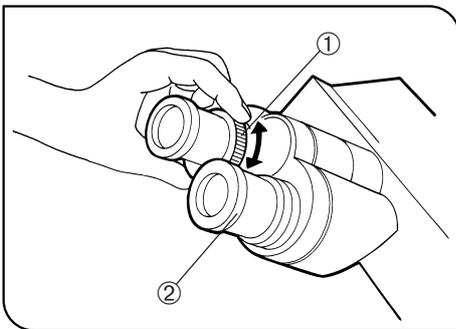

Fig. 16
2 Adjusting the Diopter (Figs. 16 & 17)
2. Looking through the eyepiece sleeve with the diopter adjustment ring ①, turn only the ring to focus on the specimen. (Fig. 16)
1. Looking through the right eyepiece with your right eye, turn the top of the eyepiece ② until a clearly defined double crosslines can be seen in the field of view. (Figs. 16 & 17)
3. Looking through the left eyepiece with your left eye, turn the diopter adjustment ring ① to focus on the specimen.